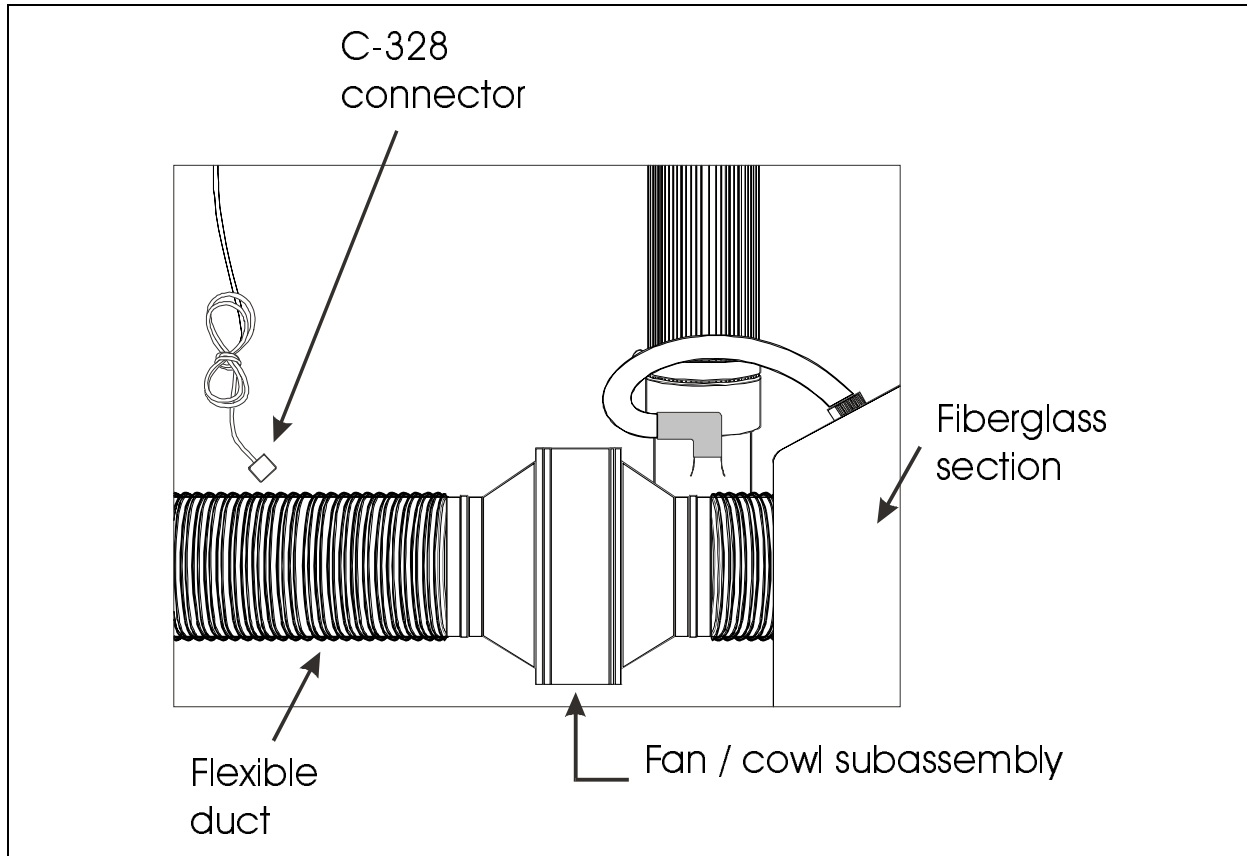

FIGURE 3
3. Set the fan/cowl subassembly in between the two sections of ducting (figure 3).